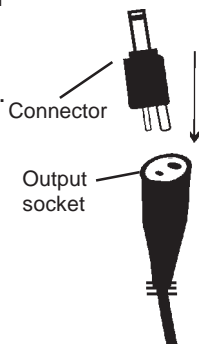

Fig. 2
- Select the appropriate connector and attach it to the output socket at the end of the output cord. To identify the correct connector for your device, see the list of digital cameras on the reverse side of this sheet. If unsure, use the connector that fits the power jack of your camera. The two-pin connectors can fit into the socket only one way. Align the pins as shown at right in Fig. 2. One pin is larger than the other. Do not force.